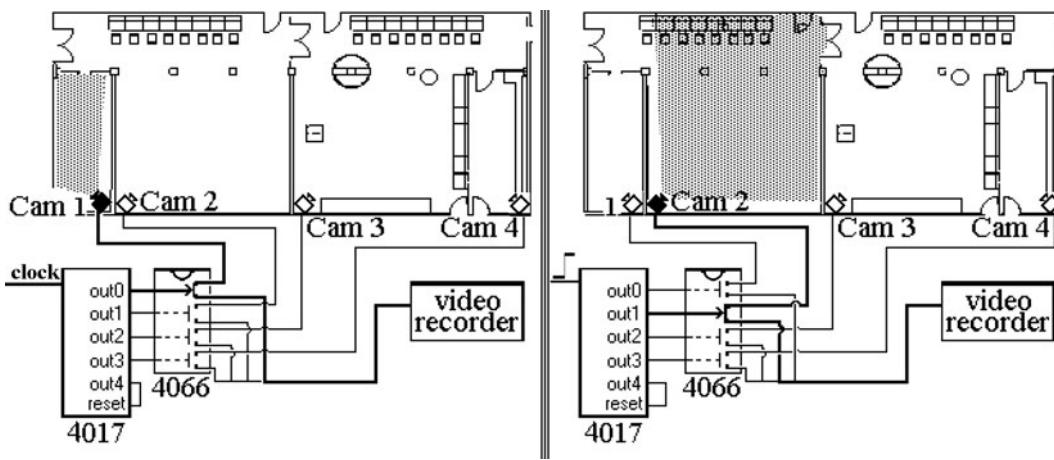

Figure L42-2
So what good are these? That is up to you to decide. Maybe you don't want to count zero to nine all the time. Maybe you only want it to count to six, like rolling a die. Maybe you have a hexapod robot. It has a preset cycle for its six legs. You can use the 4017 to trigger this system. Figure L42-2 shows a really cheap, simple, yet effective idea for applying the 4017 in a video security surveillance system.
10. In the following system diagram, describe the processor for the video security system shown in Figure L42-2 (see Table L42-1).